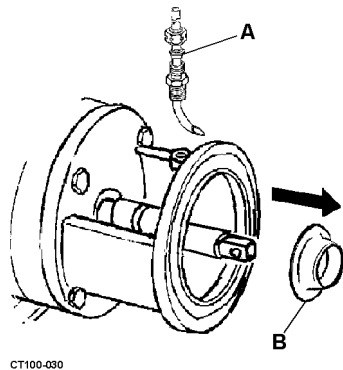

Figure 19 - Removal of Cascade System
- Remove the water cascade attachment from the adapter if included. (See Figure 19 item A). Remove the rubber shaft deflector (See Figure 19 item B) by pulling it straight off the stub shaft. Examine it for tearing, loose fit or other defects that would allow liquid leakage into the motor along the shaft.